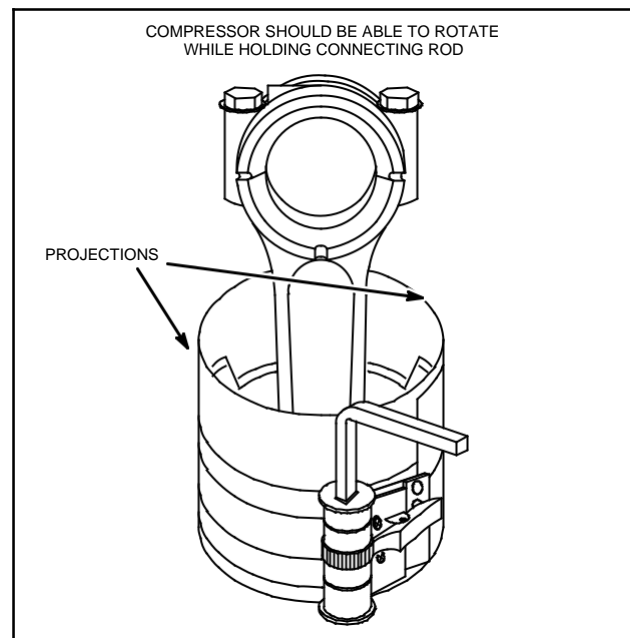

Fig. 3 – Compressing Rings
1. Oil piston rings, piston skirt, and compress rings with Ring Compressor, Tool #19230, Fig. 3.